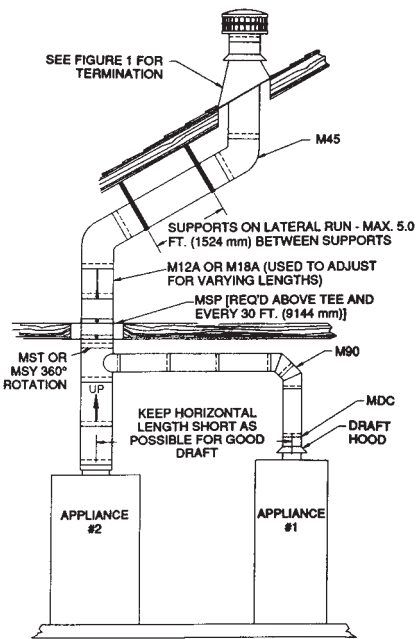

FIGURE 4
9. If the installation requires two appliances to terminate into a common B-Vent, a B-Vent wye or tee is used. It is recommended that the higher output appliance, normally the furnace, insert into the bottom of the wye or tee and the other appliance attach to the tap. To minimize the length of run and to provide maximum flexibility in these installations, a swivel tee (MST) or swivel wye (MSY) is used. These components provide 360 degrees of rotation to position the tap in the proper orientation (See Figure 4). NOTE: Consult the Metal-Fab catalog for the many variations of wyes and tees available.
12. If your installation requires a change in diameter due to vent capacity, a B-Vent increaser (MI) is available. Installation is the same as standard B-Vent Sections.